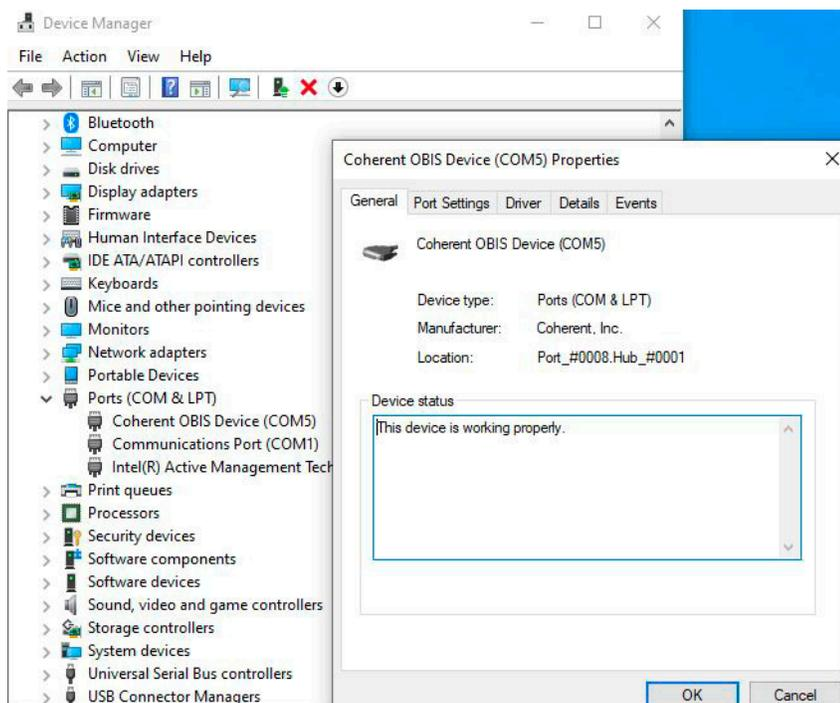

Figure 4-49. COM Port in the Device Manager
3. Look for the Coherent device under the list of Ports (COM & LPT), shown in the example in Figure 4-49.
4. Double-click the device to show the device properties dialog. Refer to Figure 4-49.